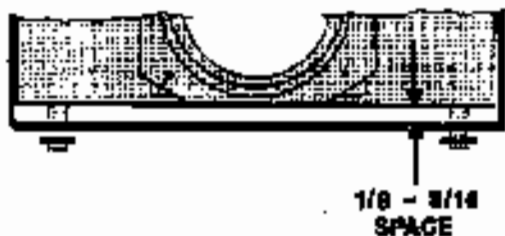

FIGURE 3.10
10. Wind the cable clockwise on the outer spool until the carriage is pulled back from the inner face of the base assembly (See Figure 3.10) $1/8$ to $3/16$ inch.